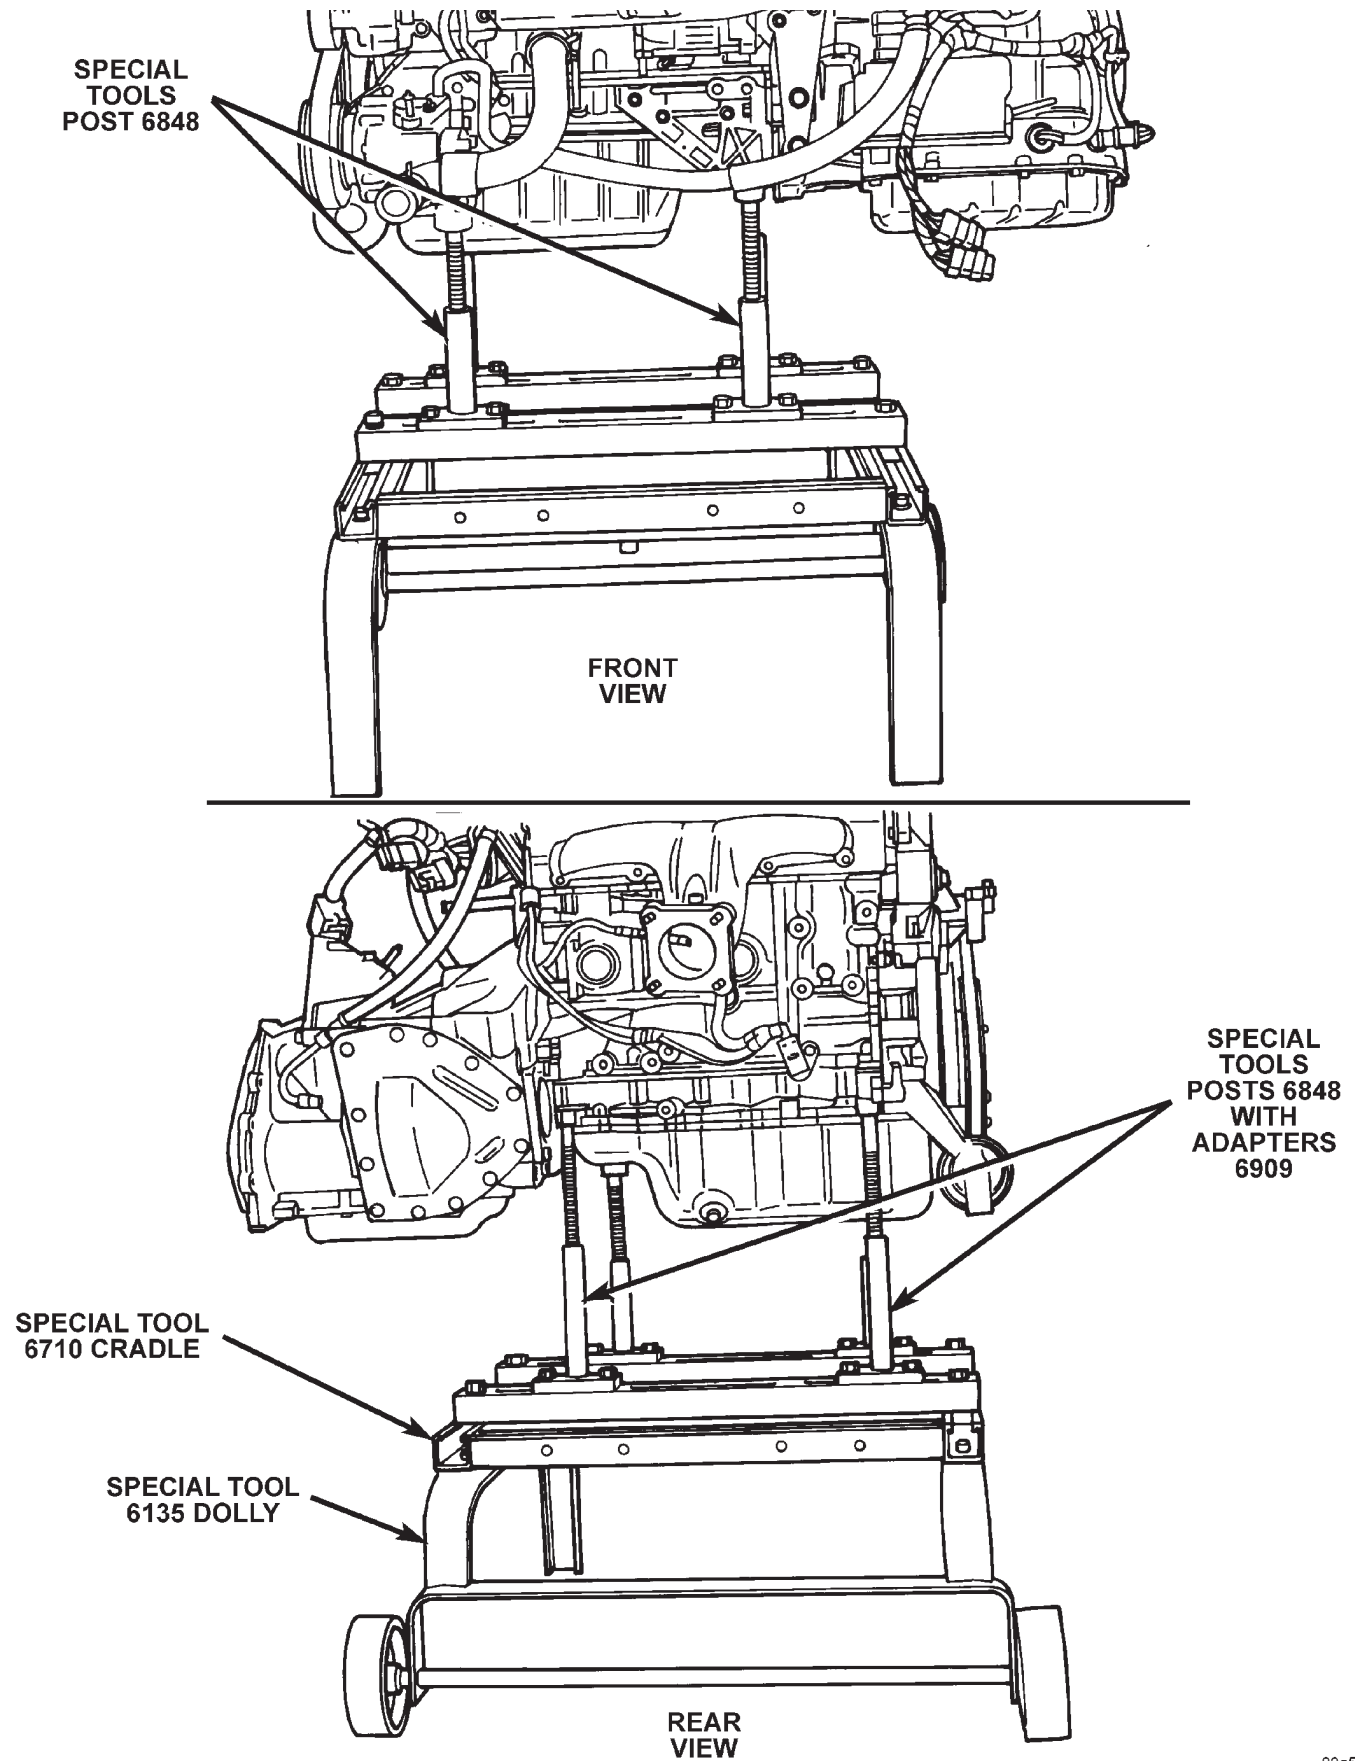

Fig. 21 Positioning Engine Cradle Support Post Mounts
- (13) Remove accessory drive belts. Refer to Accessory Drive Belt Removal in Group 7.
- (14) Remove axle shafts.
- (15) Disconnect exhaust pipe from manifold.
- (16) Remove through bolts from front and rear engine mounts.
- (17) Remove front and rear mount brackets from the engine and transmission.
- (18) Remove collar. Remove converter bolts and mark converter for reassembly.
- (19) Lower vehicle.
- (20) Remove power steering pump, reservoir and hoses. Position components for engine removal.
- (21) Remove A/C suction line at compressor. Cap suction port and line.
- (22) Remove ground straps to body.
- (23) Raise vehicle enough to allow engine dolly 6135 and cradle 6710 with posts 6848 to be installed under vehicle (Fig. 21).
- (24) Loosen cradle engine mounts to allow movement for positioning onto engine locating holes on the engine bedplate, compressor and support bracket. Install adapters 6909 to the two post at rear of engine. Lower vehicle and position cradle mounts until the engine is resting on mounts. Tighten mounts to cradle frame. This will keep mounts from moving when removing or installing engine and transmission.
- (25) Lower vehicle so weight of the engine and transmission ONLY is on the cradle.
- (26) Remove engine and transmission mount bolts.
- (27) Raise vehicle slowly. It may be necessary to move the engine/transmission assembly on the cradle to allow for removal around body flanges.